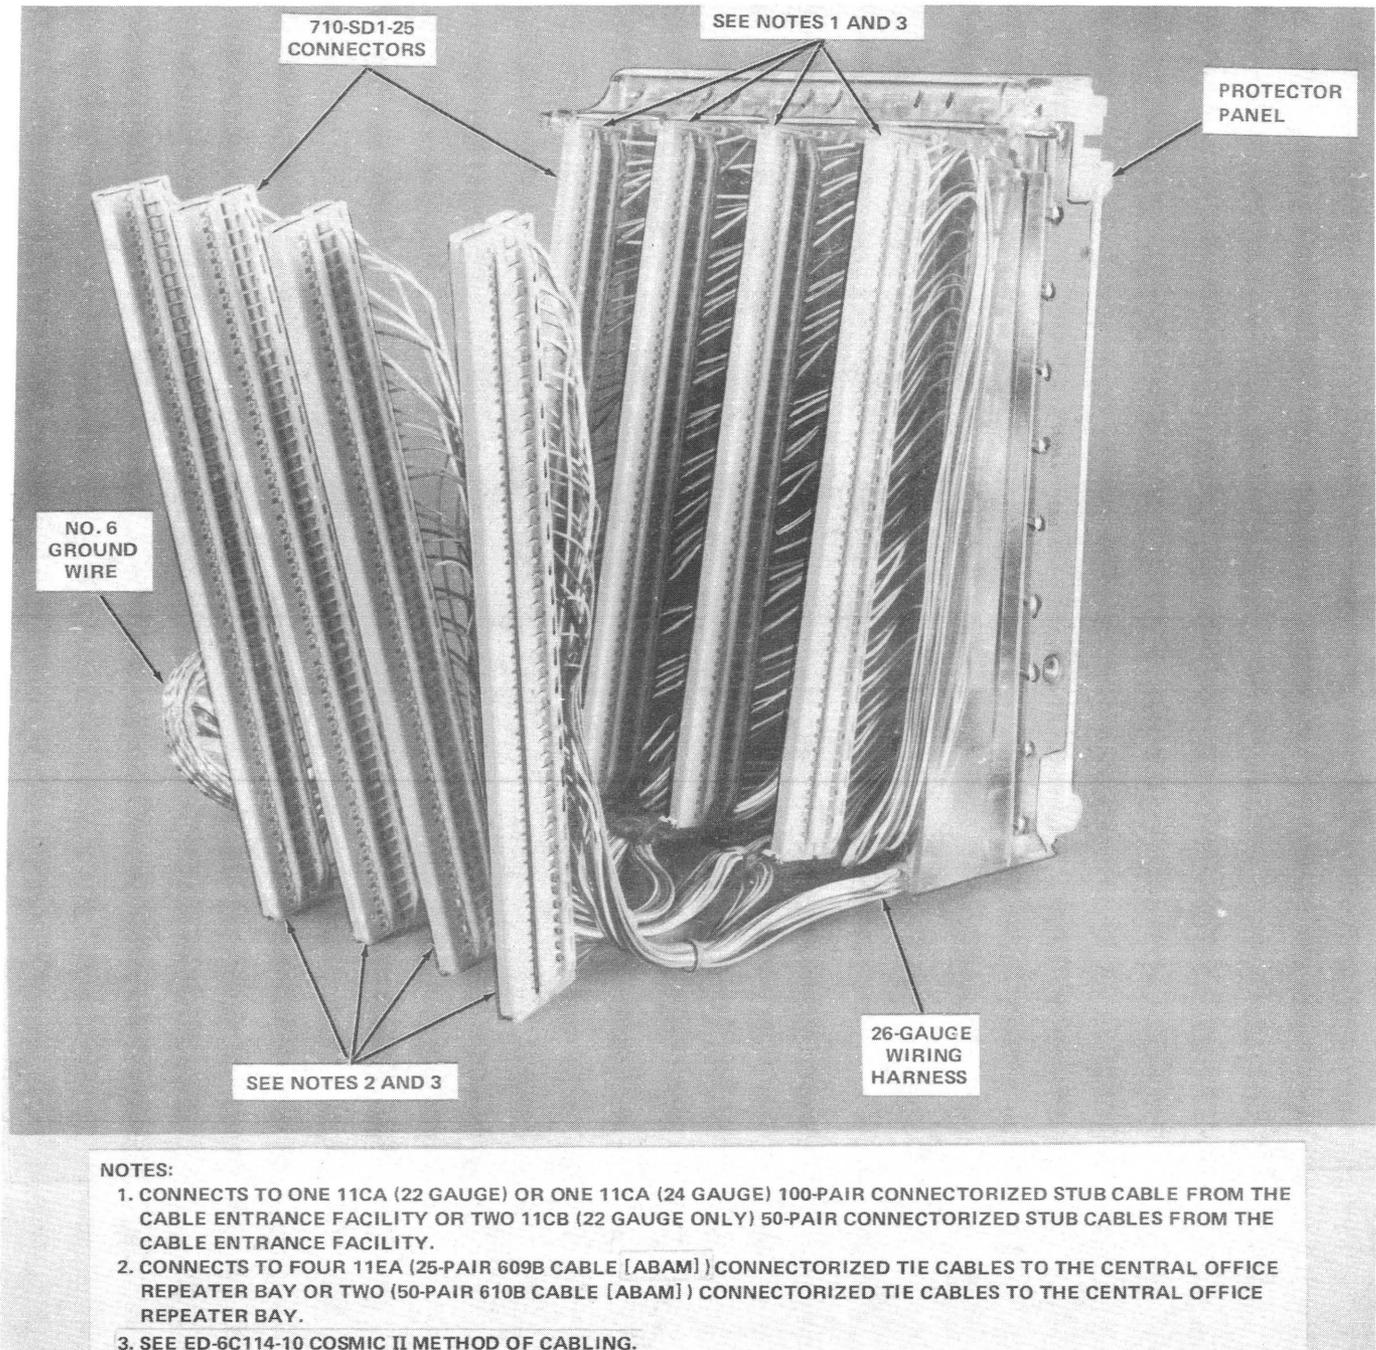

Fig. 7—Back View of 307C1-100 Connector
2.04 The 307C1-100 connector (Fig. 7) is used for protection and test access for T-carrier systems. It consists of eight 710-SD1-25 splicing module connectors. Four of these connectors are provided to